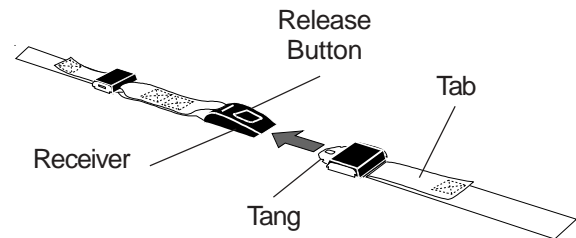

Figure 13 - Restraints
1. Separate restraint halves by pushing release button on receiver and pulling the halves away from each other (Figure 13).